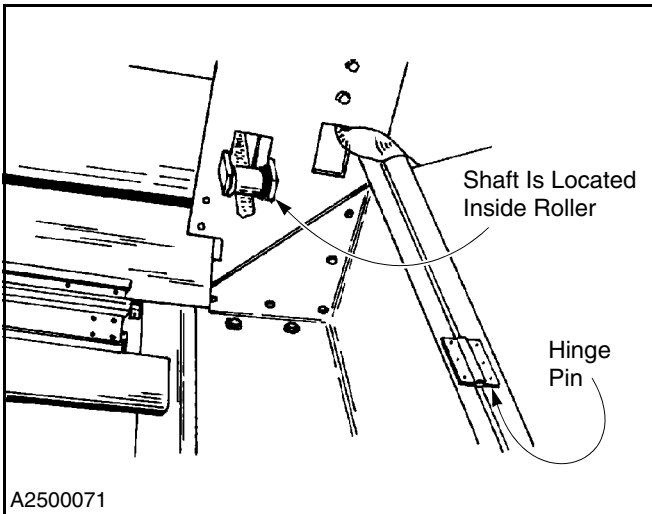

Figure 38
4. **Upper Rollers:** The upper end of each tension strap travels on an upper roller. These rollers, located near the ends of the head assembly, each spin on a shaft that must be lubricated with a good-quality grade of heavy lubricating oil. (See Figure 38.)
5. **Hinge Pins:** All side cover hinge pins must be lubricated with a good-quality penetrating oil to prevent the hinges from rusting. (See Figure 38.)